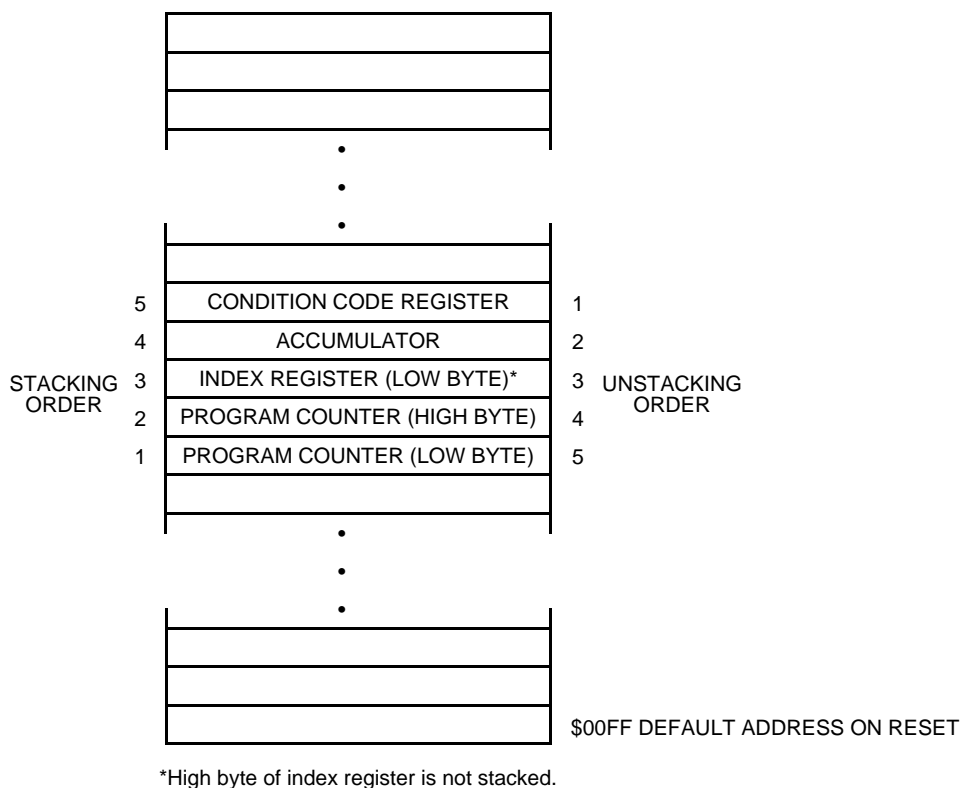

Figure 4-4. Interrupt Stacking Order
- Saves the CPU registers on the stack. At the end of the interrupt, the RTI instruction recovers the CPU registers from the stack so that normal processing can resume. (See Figure 4-4.)